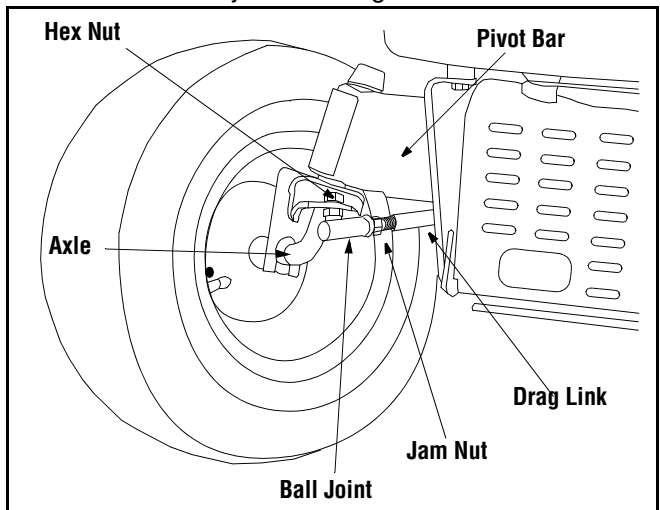

Figure 13
- Loosen the jam nut found on the drag link at the rear of the ball joint. See Figure 13.
- Remove the hex nut on the top of ball joint. See Figure 13.